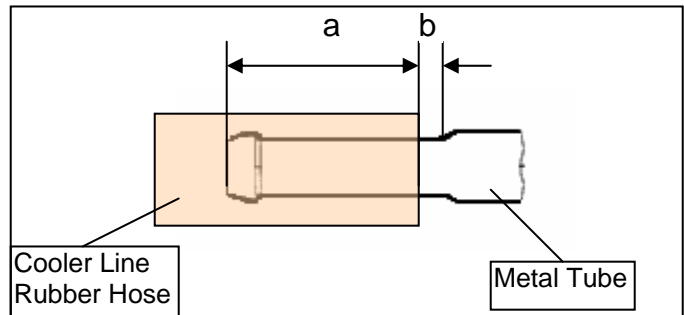

Figure 2
- Install the cooler line rubber hoses on the metal tubes as shown in Figure 2.